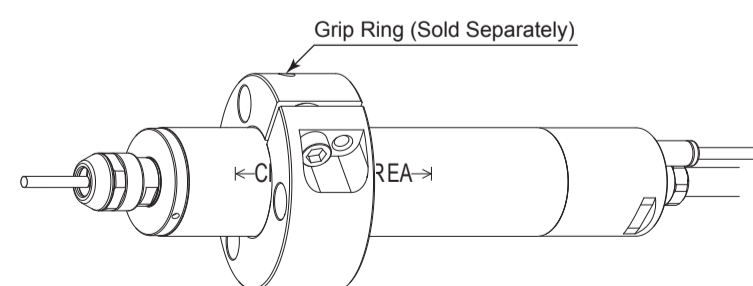

Fig. 14
- * When installing the Motor Spindle, it is recommended to use a "GR - 30 Grip Ring (sold separately (Fig. 14))". If the GR - 30 Grip Ring cannot be used due to the restriction of dimension and space, install as shown in 2 below.